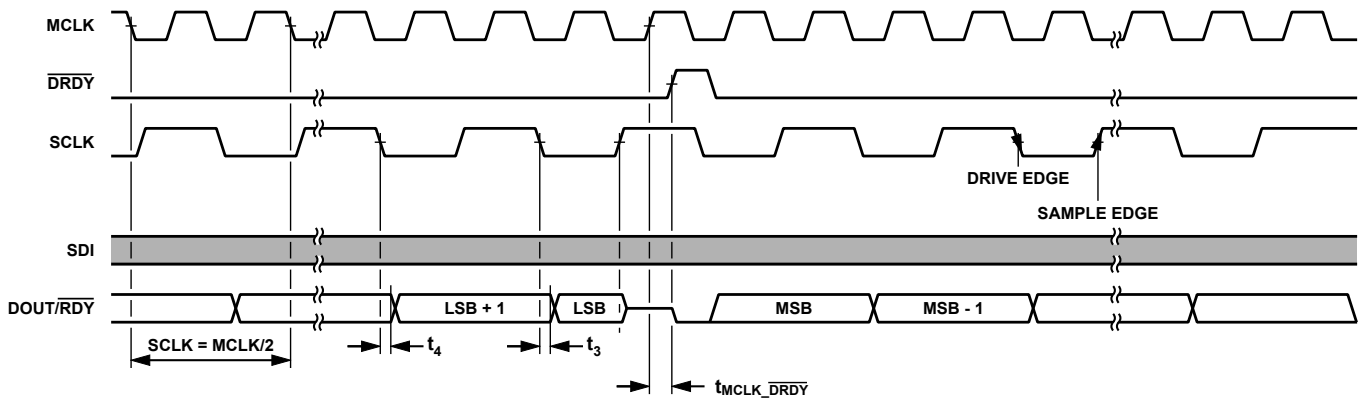

Figure 120. Recommended Interface for Reading Conversions, SPI Control, Continuous Readback Mode
The ADAQ7767-1 interface is flexible to allow the many modes of operation and for data output formats to work across different DSPs and microcontroller units (MCUs). To achieve maximum performance, the recommended interface configuration for reading conversion results is shown in Figure 120. This recommended implementation uses a synchronous SCLK to MCLK relationship.
Figure 120 shows how the recommended interface operates. The data read back spans the entire length of the \overline{DRDY} period and the LSB remains until \overline{DRDY} goes high for the next conversion.
2. Generate SCLK based on the \overline{DRDY} or \overline{RDY} timing. SCLK is high when the \overline{DRDY} signal goes high and transitions on the MCLK falling edges (see Figure 120) to ensure that the LSB can be read correctly as the DOUT/ \overline{RDY} output is reset on the \overline{DRDY} rising edge. However, SCLK rising occurs before this transition.
Because the full ODR period is for clocking data, the \overline{RDY} signal no longer flags after each LSB outputs. This signal only flags if the ADAQ7767-1 is in continuous readback mode, or if the ADAQ7767-1 does not count 32 SCLKs within $1 \times t_{MCLK}$ before \overline{DRDY} , as is shown in Figure 120.